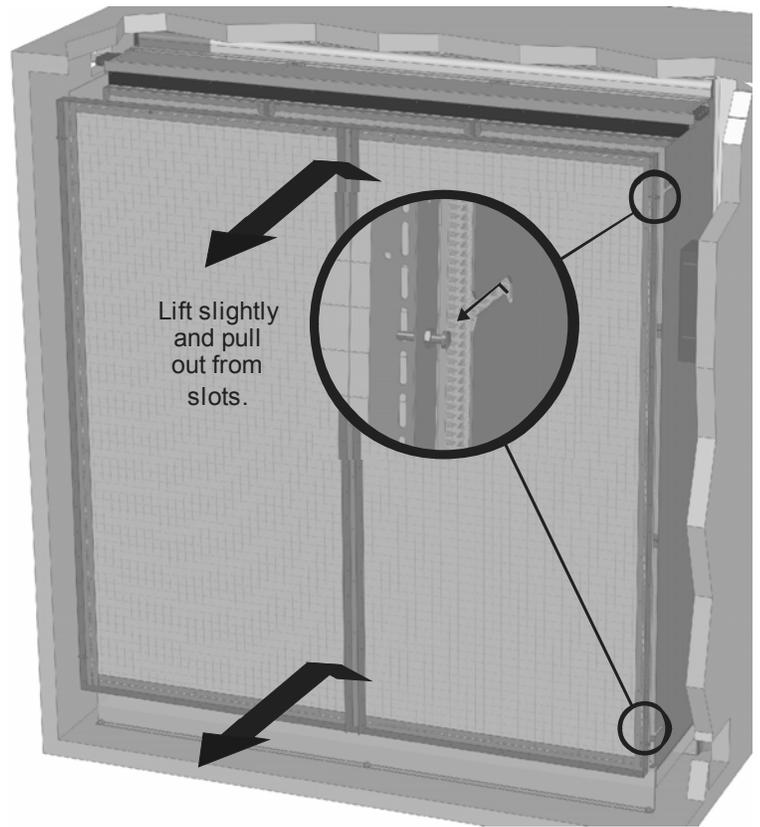

Figure 48: Mist Eliminator Removal
- 2** Remove the mist eliminator (if present) by lifting upwards and then pulling towards you. The mist eliminator support pins should slide out from slots in the side panels of the MH Duct Module (see Figure 48: Mist Eliminator Removal).